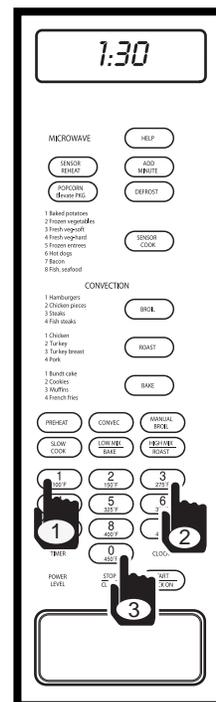

Figure 3-23.
2. Enter time of day by pressing the numbers in sequence. For example: If setting the time of 1:30, press the number 1 key, number 3 key, and number 0 key, display will flash “1:30” (See Figure 3-23).